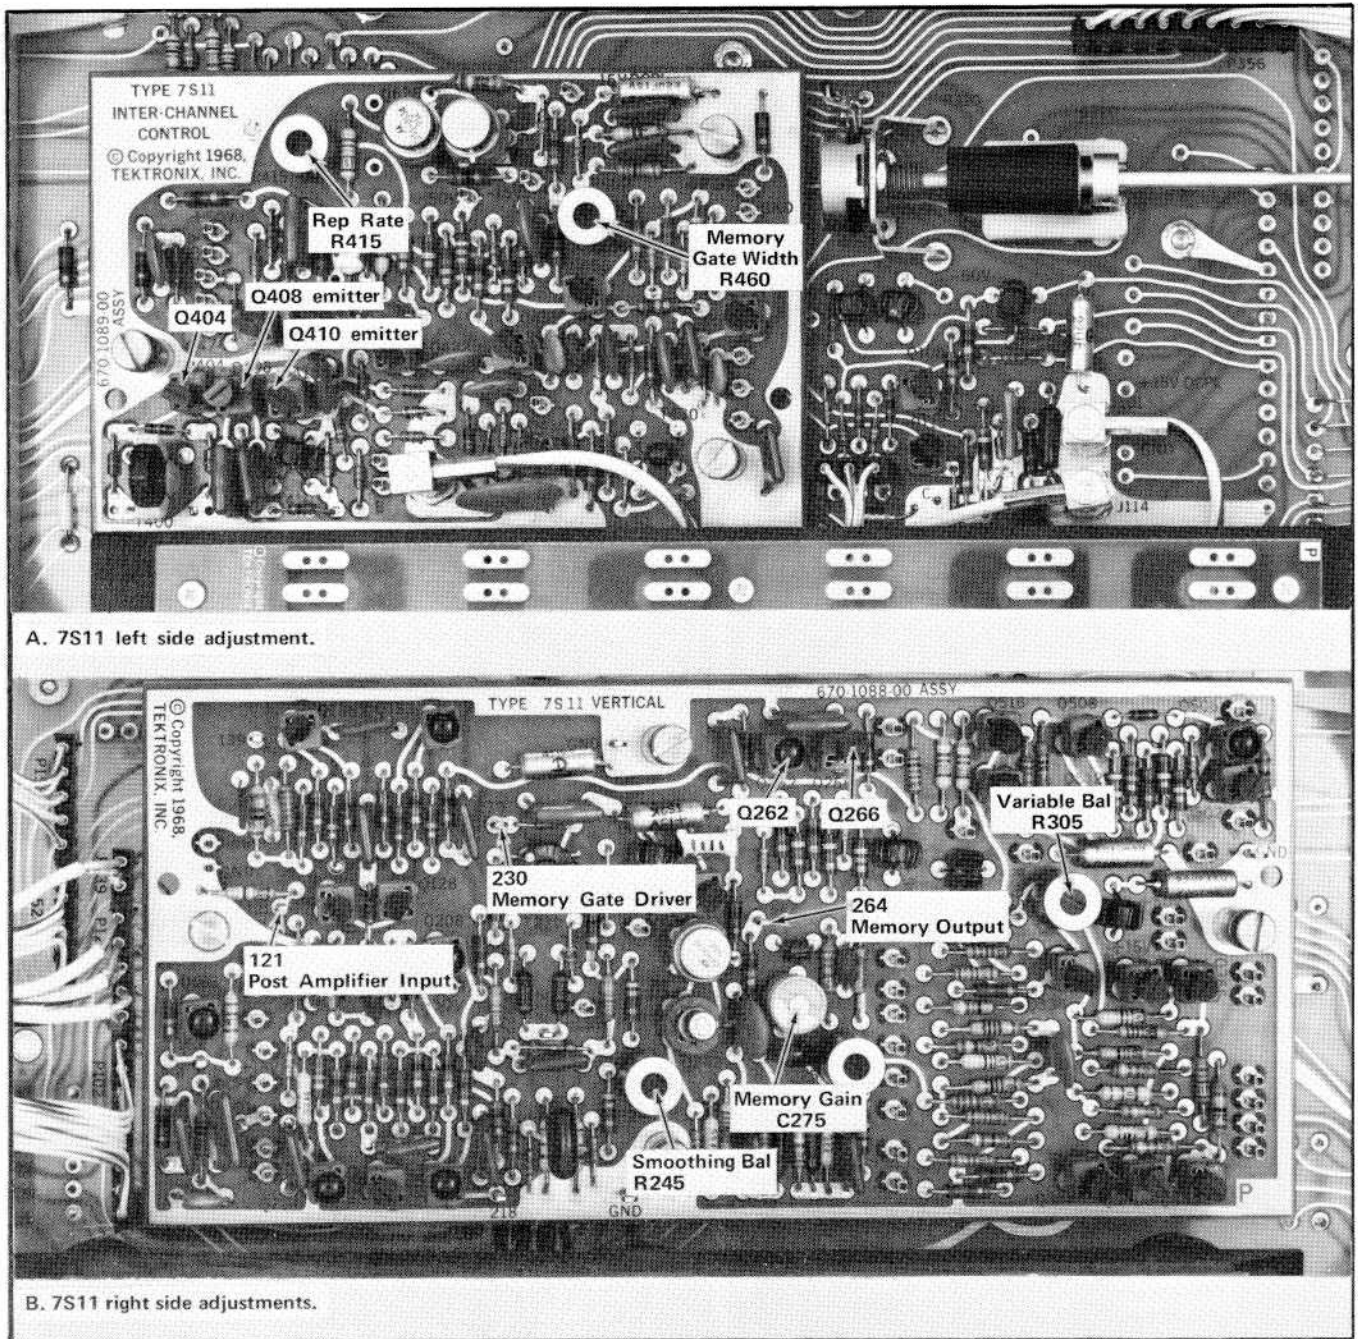

Fig. 6-7. Test points and adjustments, steps 4 through 13.
d. Adjust the Memory Gate Width control, R460, for maximum vertical separation between traces. See Fig. 6-7 for control location.
5. Adjust Memory Gate Width (R460) and Memory Gain (C275) With Sampling Head ①
e. Connect the 7A13 10X probe to test point 230, the Memory Gate Driver, see Fig. 6-7.
g. Adjust the Memory Gate Width control R460, Fig. 6-7, for a Memory Gate between 160 ns and 180 ns wide at the 50% amplitude level.
h. Connect the 7A13 10X probe to test point 121, the Post Amplifier Input, see Fig. 6-7, and use a short ground lead (Tektronix Part No. 175-0249-00) to minimize ringing. Set the 7A13 Volts/Div switch to 10 mV.
j. Remove Q404, see Fig. 6-7, and obtain a stable, double-triggered display in such a manner that there are two, most defined, waveform traces, one positive and one negative, as shown in Fig. 6-8C. If not, change the real-time oscillator frequency by adjusting R415.
m. Adjust the Memory Gain control C275, see Fig. 6-7, for 5 divisions separation (2.5 divisions if not a Type S-1), similar to Fig. 6-8A.
a. Remove Q262 and Q266, then short test point 264 to ground with a patch cord. See Fig. 6-7.
c. Adjust Variable Bal control R305 for minimum trace shift as the VARIABLE control is rotated throughout its range. See Fig. 6-7 for location of control.
d. Adjust Rep Rate control R415 for a period between $19 \mu\text{s}$ and $23 \mu\text{s}$. See Fig. 6-7 for location. See NOTE in Real Time Sampling on page 2-7 regarding this adjustment